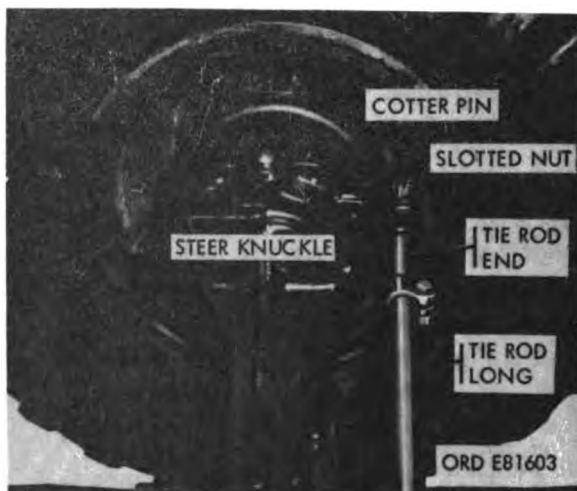
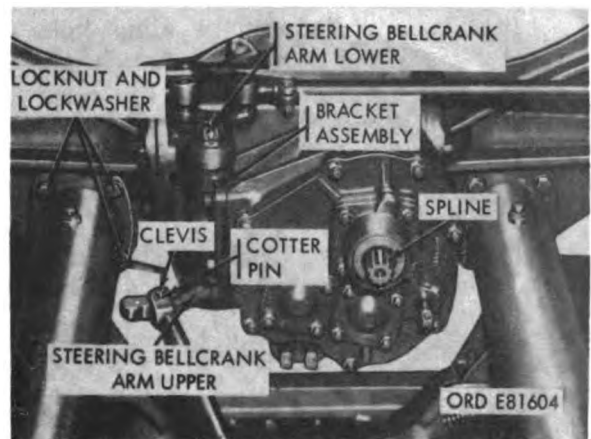

Figure 2-65. Tie rod and steering knuckle on rear axle.
Figure 2-66. Rear steering bellcrank (except M274A5).
- (6) Remove transmission and transfer control rod linkage (par. 2-44a).
- (7) Remove two cotter pins and slotted hex nuts (fig. 2-65) securing outer end of tie rods to arms of steering knuckles and remove tie rod ends from arms. Remove cotter pin and clevis pin securing connecting tie rod to rear bellcrank upper arm (fig. 2-66), and swing rod to one side. Remove four hex nuts and lockwashers securing bellcrank bracket to transmission housing, and remove bracket, bellcrank, and tie rods from transmission, without further disassembly.
- (8) Remove eight locknuts and seven lockwashers (fig. 2-66) from bolts securing rear axle between flanges of frame tubes and rear support tubes. Remove bolt from upper right, right-hand side of vehicle, which passes through axle and two flanges. The bolt is screwed into starter rope pulley housing. Support axle with hoist; remove remaining seven bolts, and lift axle away from vehicle frame. Remove gaskets installed between frame tube flanges and axle on left side.
- (1) With vehicle turned upside down, insert lifting hooks into lifting eyes at each end of axle and raise axle assembly with a hoist; carefully lower into position between frame tube flanges and rear support tubes. Install new gaskets between flanges on left frame tubes and axle. Push eight bolts through flanges on frame tube, rear axle, and flanges on rear bed support. Screw upper-right outside bolt into starter rope pulley housing, and secure locknut. Install lockwashers and self-locking nut on remaining seven bolts.
- (2) On all models except the M274A5 vehicle, position rear bellcrank bracket (fig. 2-66) with bellcrank and attach the tie rods on studs on transmission housing, and secure with four lockwashers and hex nuts. Position rear end of steering connecting rod on rear bellcrank upper arm and secure with clevis pin and cotter pin (fig. 2-66). Insert outer ends of rods in holes in arms in steering knuckles, and secure each with slotted hex nut and cotter pin.